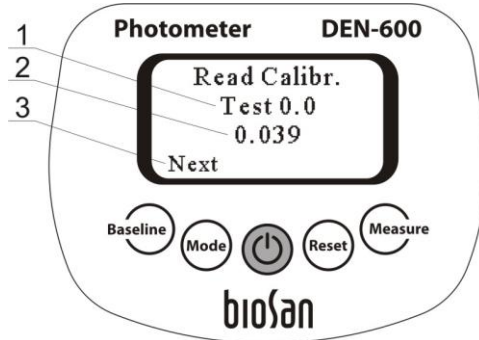

Figure 4. Saved user calibration data
- 5.7. **Saved user calibration data observation (Figure 4).** Press **Mode** key in user calibration regime, then press Next (**Baseline** key) to observe calibrated points and Abs result equivalent to McF in user calibration.